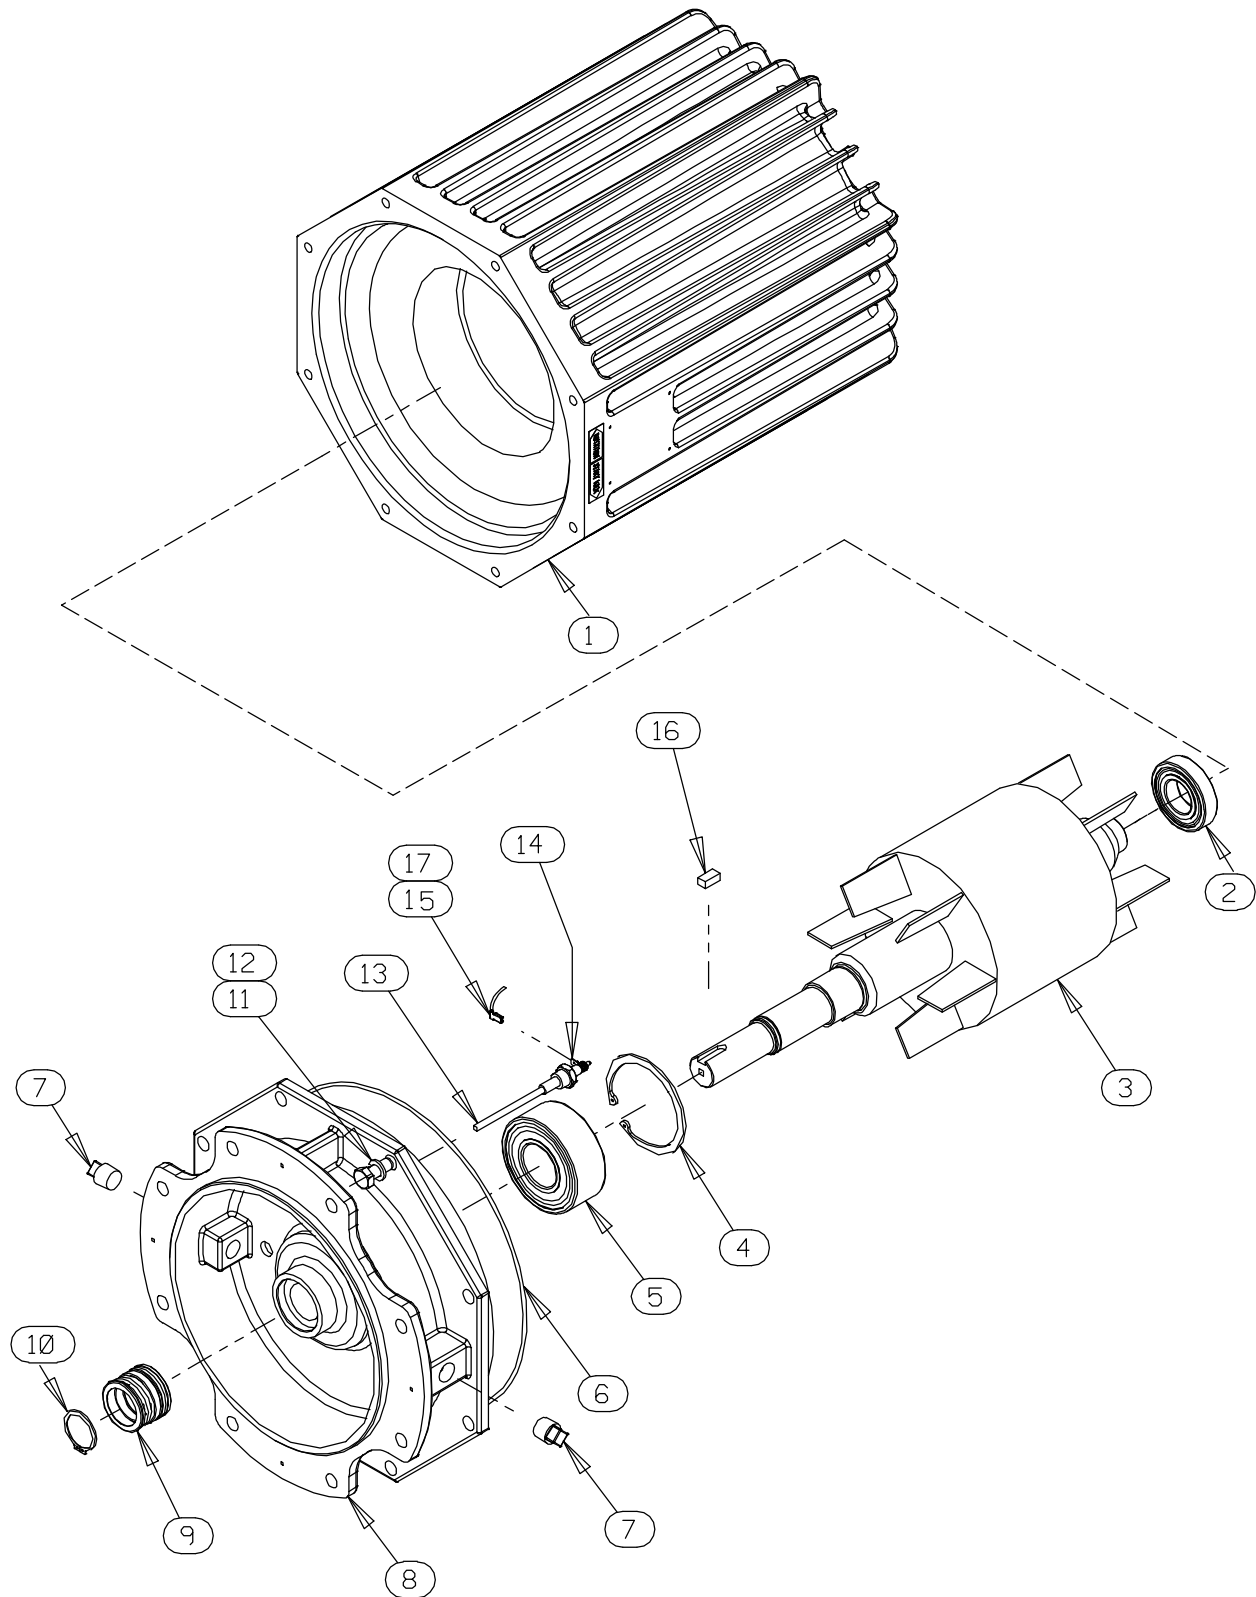

Figure E-2. Motor Assemblies
(Figure E-2)
To remove the impeller, use two thin-bladed screwdrivers positioned 180° apart to pry on the back of the impeller and “walk” the impeller off the shaft. Use increasingly larger screwdrivers (or wedges) as necessary. After the impeller comes free of the shaft, retain the impeller key (16, Figure E-2).
An alternate method of removing the stationary element is to remove the screws (22) securing the seal plate (19) to the motor assembly (13). Pry the assembled seal plate and stationary element off the shoulder of the intermediate (8, Figure E-2). Remove the O-ring (18) and press the stationary element and seat out of the seal plate from the back side.
(Figures E-2 and E-3)